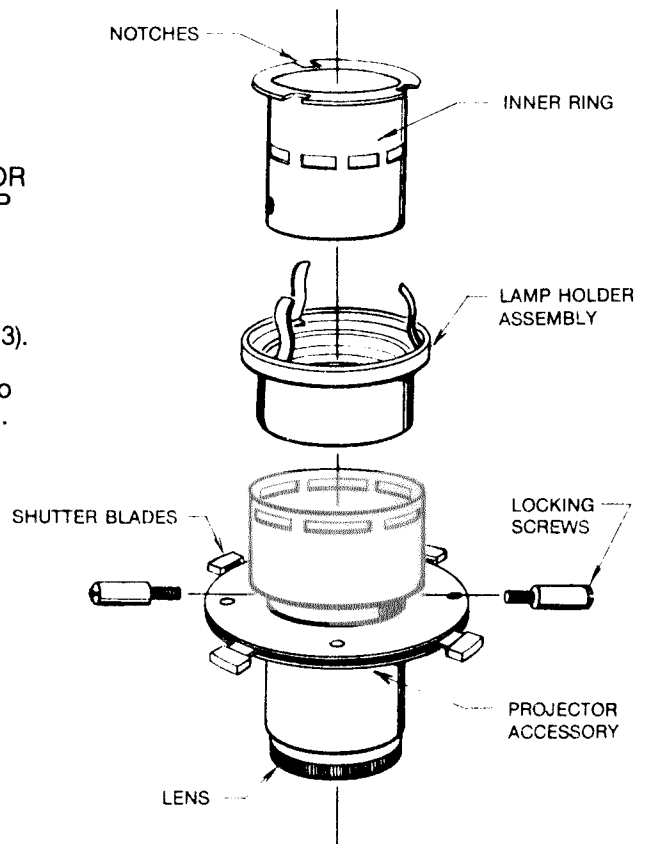

FIG. 2
4. Remove the INNER RING from PROJECTOR ACCESSORY by backing out the (2) LOCKING SCREWS (see Fig. 2).